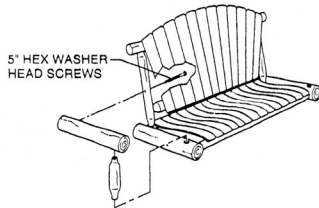

figure 2
- STEP 2** Pre-measure and mark rail and legs for braces. Mark position of leg braces 32" from the top of the legs as illustrated in figure 2. Mark position of rail to leg brace 22 1/2" from the end of top rail and 24" from the top of legs as shown in figure 2.
STEP 3 Insert 12" arm support into 1-1/2" hole in arm, then into 1-1/2" hole in the top of the seat end. Drive dowels in as far as possible. Fasten arm to frame of the back by tightening the preinstalled 1/4" x 5" lag screw into the pilot hole in the arm with a wrench. Repeat process for the other arm. See Figure 2.